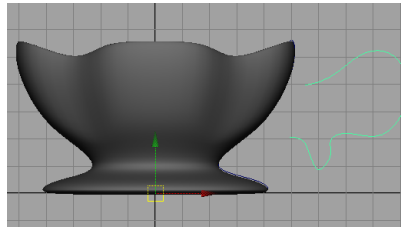

Figure 3-96 The profile curve for the handle
1. Choose the **Four View** button from the Tool Box to switch to four views. Move the cursor to the front viewport and then press the SPACEBAR key to maximize the front viewport. Choose **Create > CV Curve Tool** from the menubar and draw a profile curve, as shown in Figure 3-96 and then press ENTER key.